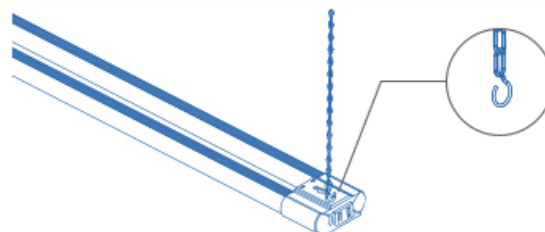

Figure 4
- 2 Hook the hanging chain with lamp. (Figure 4)